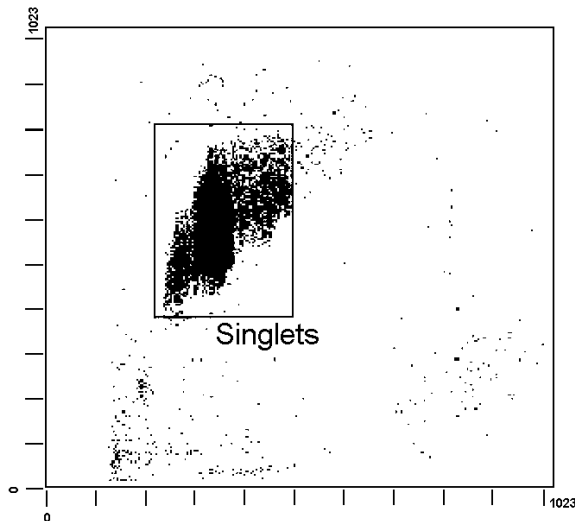

Figure 2. Forward scatter versus side scatter of Set-Up Beads. The gate has been set to collect bead singlets.
- Acquire the data from the Set-Up Beads. Fluorescence analysis is confined to bead singlets clear of debris, as defined on a forward scatter versus side scatter dot plot (see Figure 2).